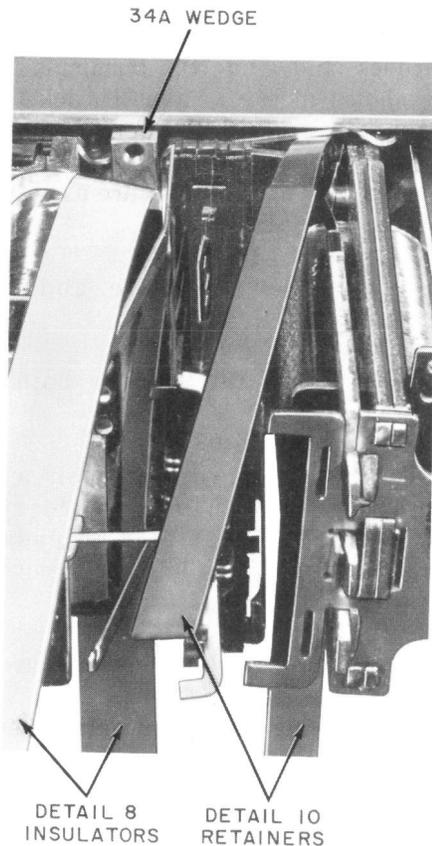

Fig. 22—Detail 10 Retainers in Place
- 3.58** Apply the B long-nose pliers to the clamping springs as close to the relay mounting bracket as possible and squeeze ends of clamping spring to the flange of the mounting plate. Then insert detail 10 retainer between clamp spring end and mounting bracket as shown in Fig. 22. Use one retainer for retaining the top clamping spring and a second detail 10 retainer for retaining the bottom clamping spring. This provides accessibility for new replacement coil, core, and armature assembly.
3.81 Apply the B long-nose pliers to the clamping springs as close to the relay mounting bracket as possible, and squeeze ends of clamping spring to the flange of the mounting plate. Then insert detail 10 retainer between clamp spring and mounting bracket. (See Fig. 22.) Use one retainer for retaining the top clamping spring and a second retainer for retaining the bottom clamping spring. This provides accessibility for the new replacement coil, core, and armature assembly.
- 3.103** Apply the B long-nose pliers to the clamping springs as close to the relay mounting bracket as possible, and squeeze ends of clamping springs to the flange of the mounting plate. Then insert detail 10 retainer between clamp spring and mounting bracket. (See Fig. 22.) Use one retainer for retaining the top clamping spring and a second retainer for retaining the bottom clamping spring. This provides accessibility for the new replacement coil, core, and armature assembly.